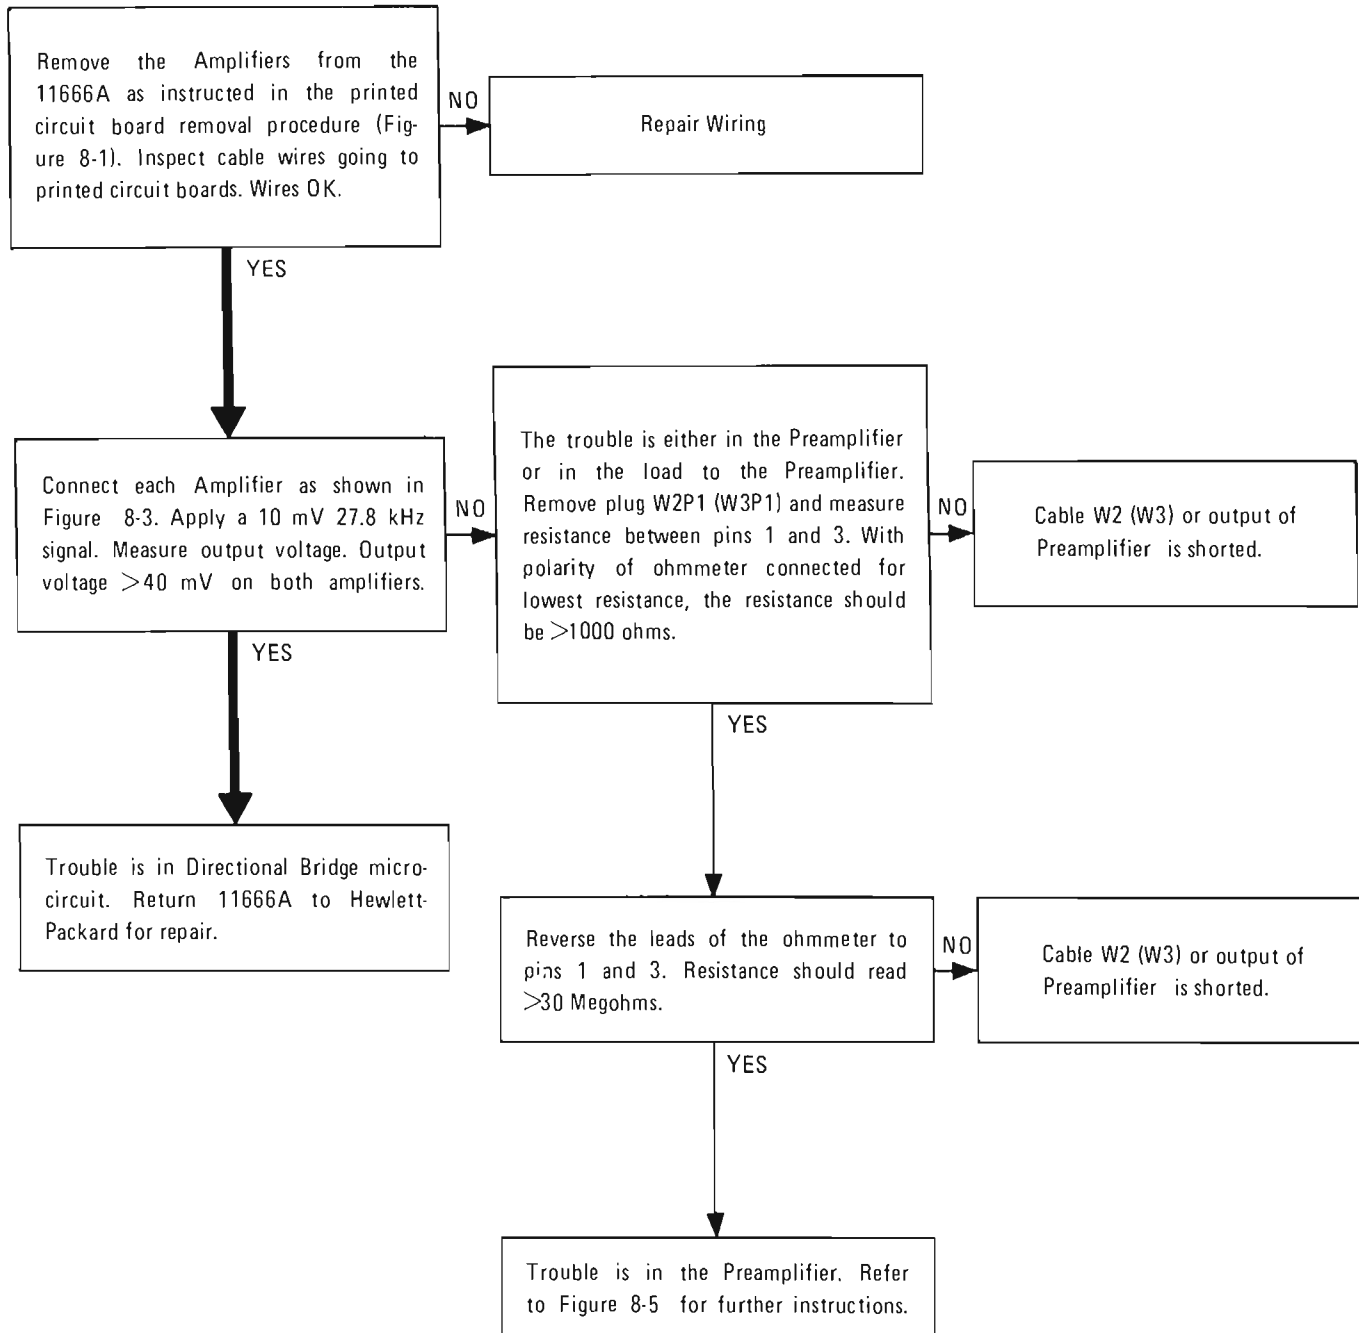

Figure 8-4. Model 11666A Troubleshooting Flow Diagram
b. Perform the troubleshooting procedure in Figure 8-4 to determine if A2 and A3 Amplifier Assemblies are working properly.